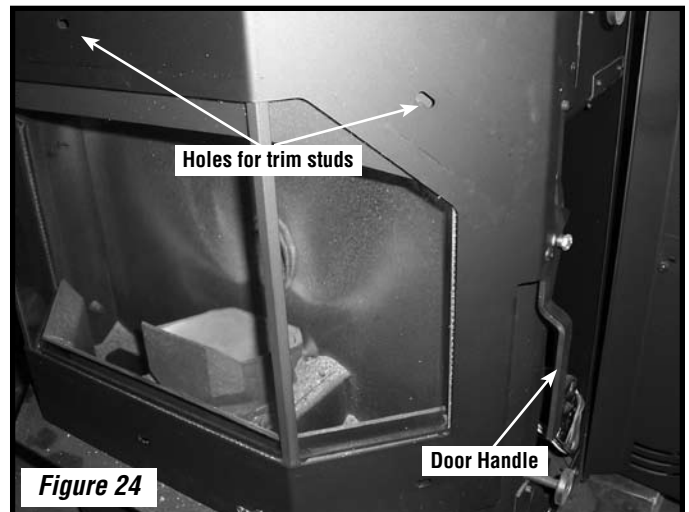

Figure 24
2. Open right and left side door. The side doors swivel open towards the back of the stove. See **Figure 24**.